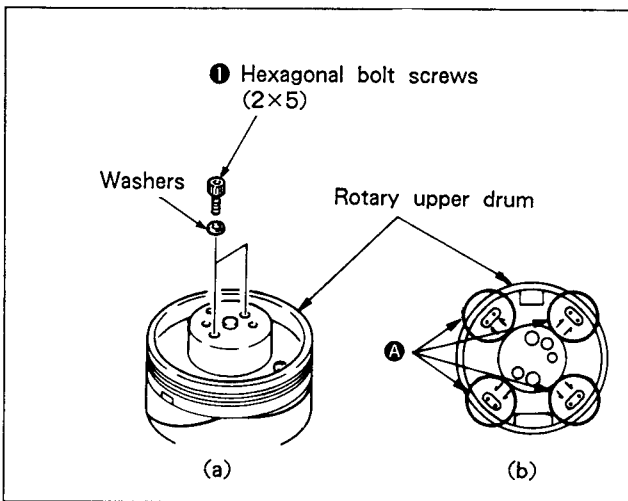

Fig. 7-46.
- 1) Remove all eight solders in section **A** and confirm that the board and the pins on the bottom can move freely, using tweezers or the like. (See Fig. 7-46.)
- 2) Remove the two hexagonal bolt screws **1**. (See Fig. 7-46.)
- 6) Solder the pins in section **A**. (See Fig. 7-46.)